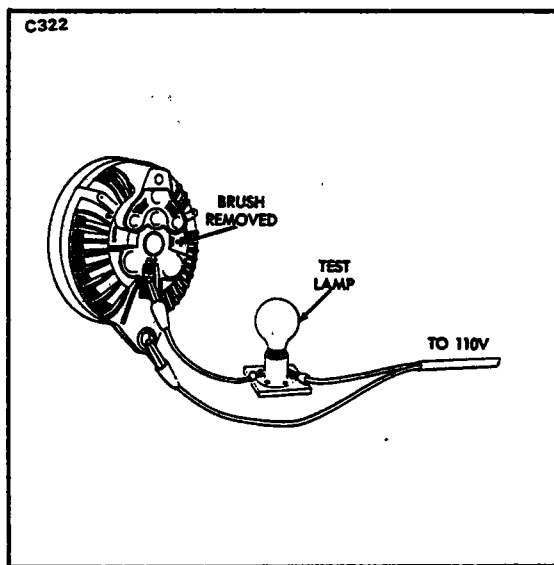

Figure 11-20... Testing Field Circuit
a. Remove the ground brush and using a 110-volt test lamp, place one test probe to a machined surface at one of the alternator end shields. (Refer to Figure 11-20.) The test lamp should not light.